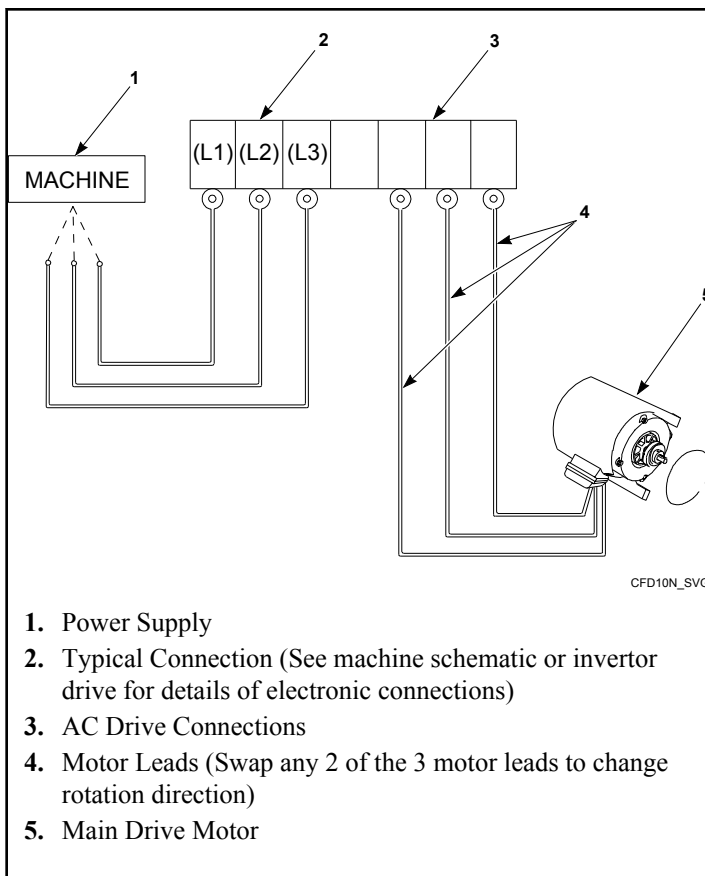

Figure 31
8. Cylinder rotation must be clockwise in an extract step for all models. If rotation is not correct, disconnect power. A qualified electrician must reverse any two motor leads between the AC drive and the main drive motor. Refer to *Figure 31*.